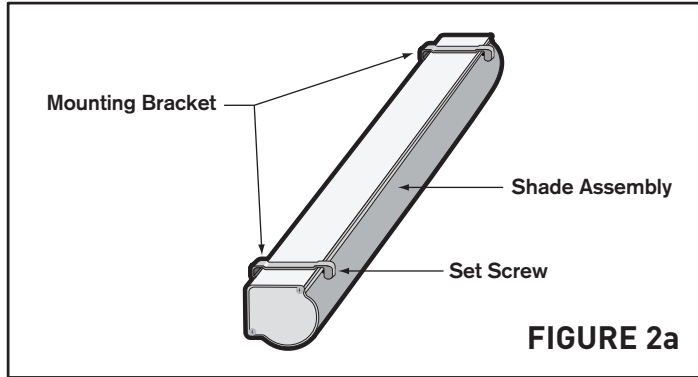

FIGURE 2a
Step 4. Tighten the set screw in each mounting bracket until the shade assembly is secure. (See Figure 2a)